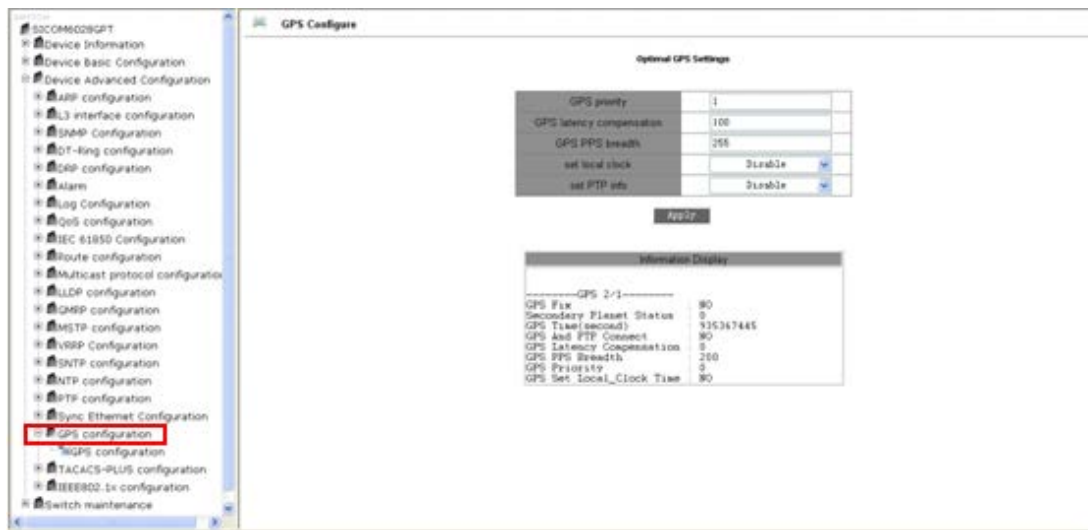

Figure 20 GPS Configuration Interface
2. Input the IP address of the current switch in web browser, the default IP is **192.168.0.2**. The Web interface access screen will appear as shown in Figure 19 (Take SICOM6028GPT for example); Enter the Web management page as shown in Figure 20 with default user name “**admin**” and password “**123**”.
3. As shown in Figure 20 below, there is a navigation tree menu on the left side; click Gps configuration (in red)→Gps configuration, and the Gps configuration interface will appear on the right; you can make and search for GPS configuration on upper and lower side of the Gps configuration interface separately. Refer to Table 4 for the description of the current GPS configuration information.